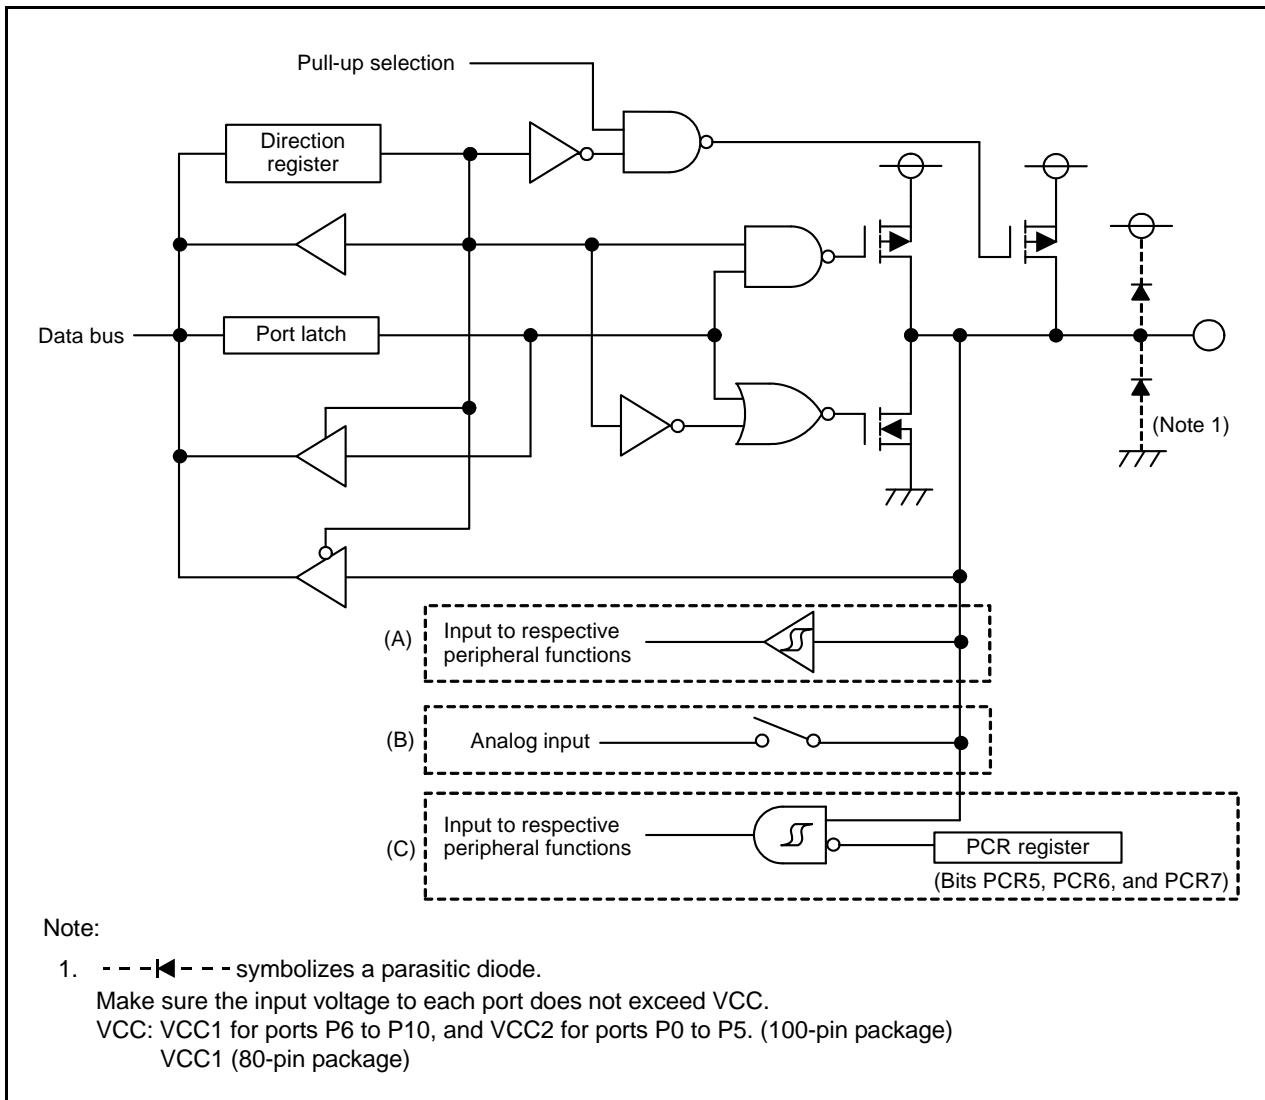
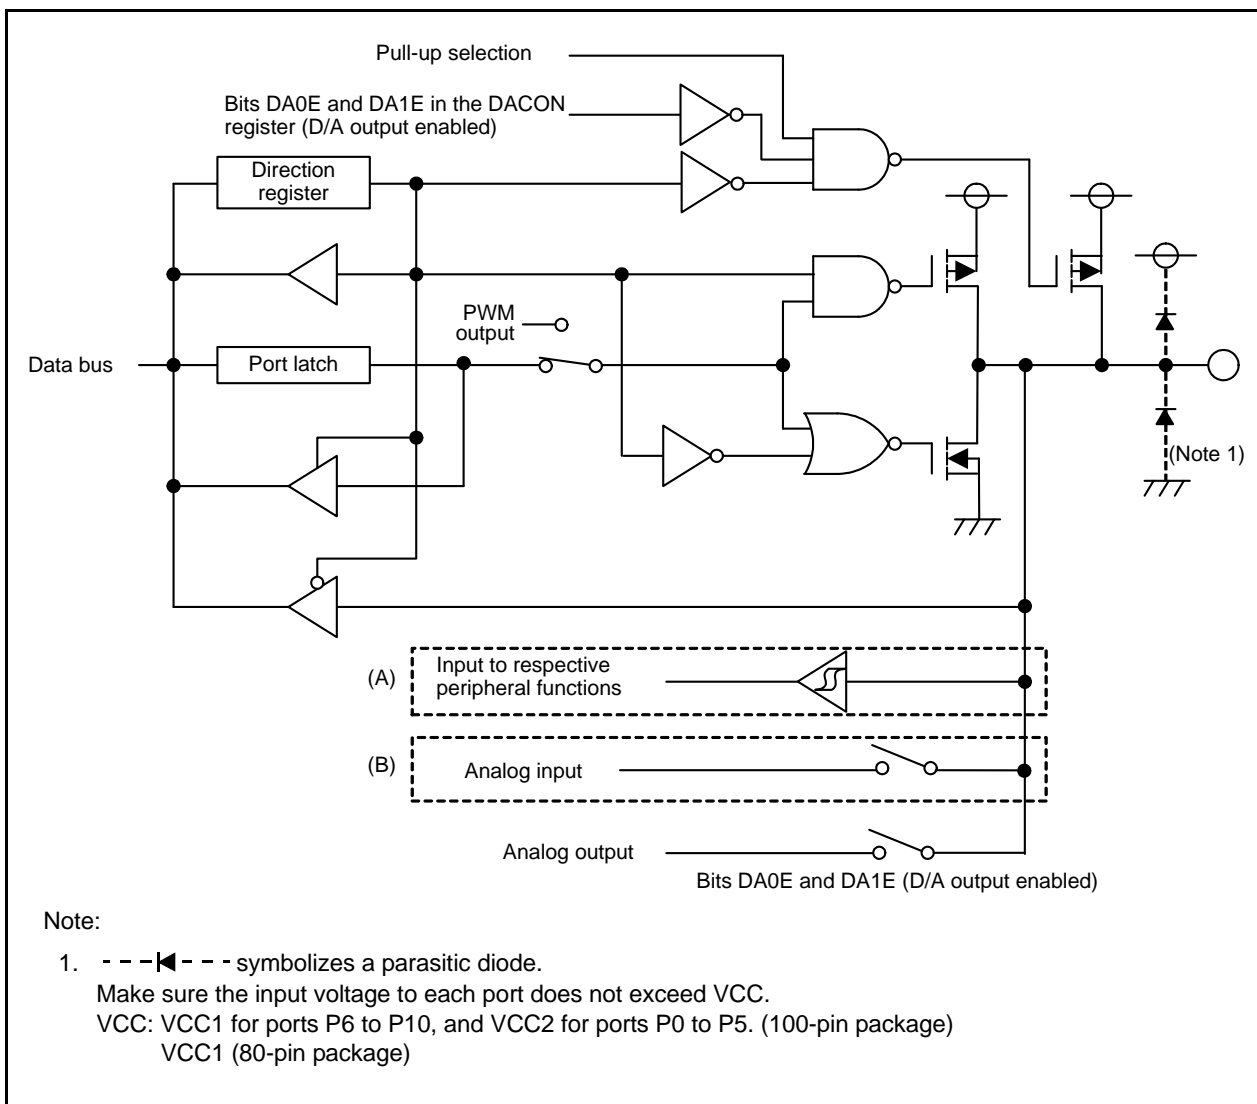
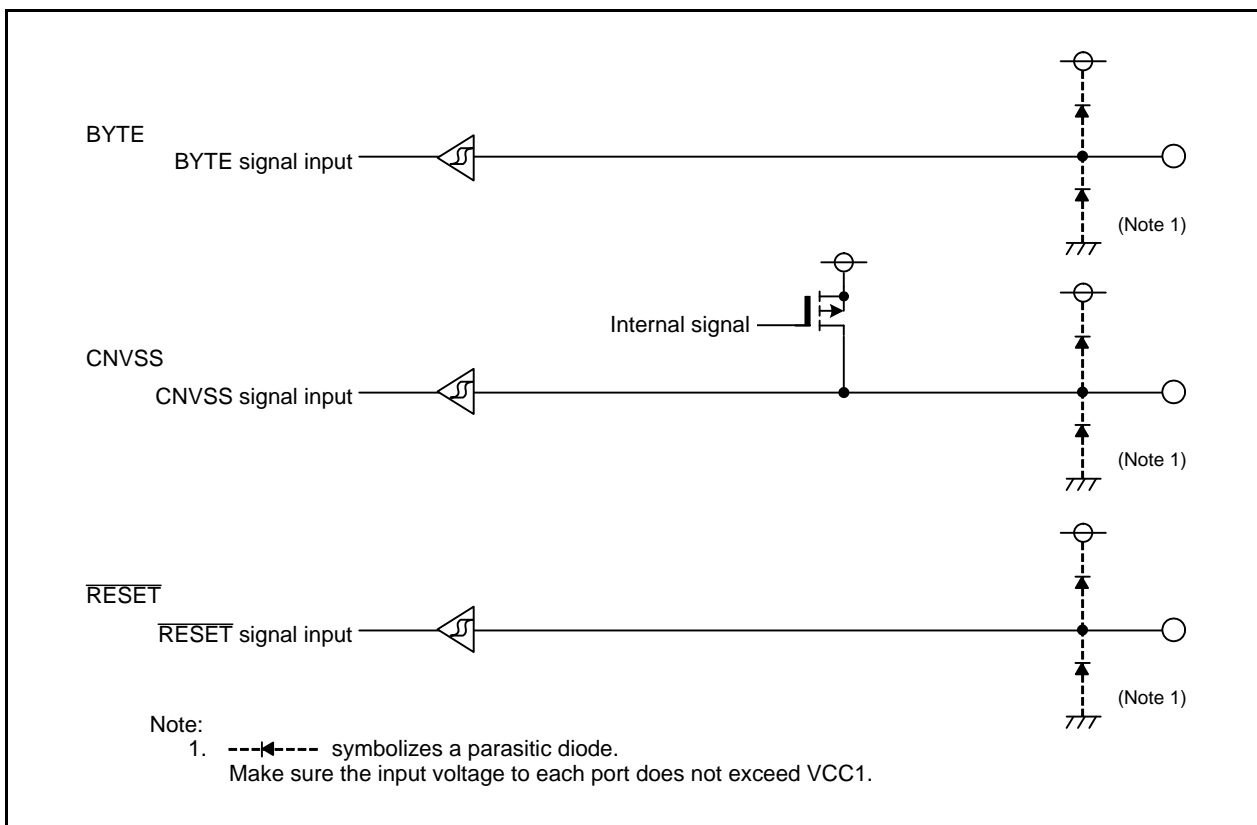

Figure 13.1 I/O Ports (Basic)
Figure 13.11 I/O Ports (D/A)
Figure 13.12 I/O Pins
Figure 13.1 to Figure 13.11 and Table 13.3 to Table 13.11 show the I/O port configuration, and Figure 13.12 shows the I/O pin configuration.
Peripheral function input (A) in Figure 13.11	Analog input (B) in Figure 13.11